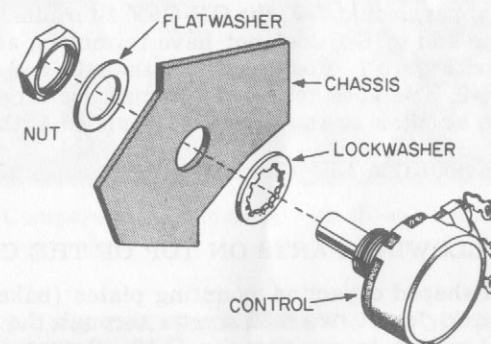

FIGURE 10. CONTROL MOUNTING DETAIL
- ☑ Mount S-2, the MON. GAIN BALANCE TEST push-button switch. Use a small metal flatwasher in addition to the lockwasher and nut supplied with the switch. The hardware is mounted in the same order as shown in the Control Mounting detail, Figure 10. DO NOT TIGHTEN THE NUT AT THIS TIME.